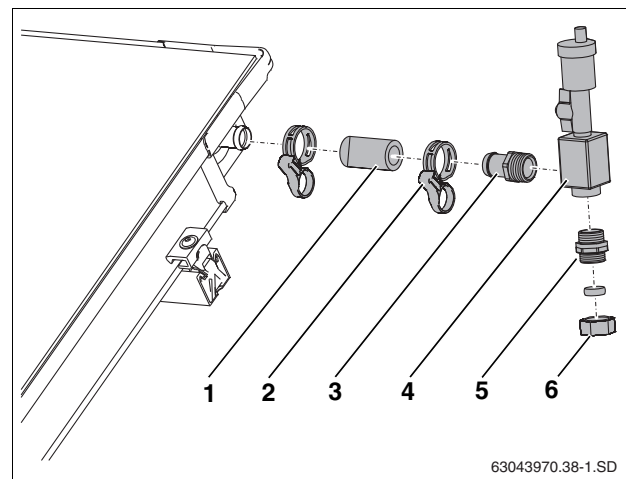

Fig. 60 Connecting the air-vent valve on roof
- ▶ Push short solar hose (55 mm, Fig. 60, [1]) onto the supply connection on the collector and secure using the hose clamp.
- ▶ Firmly screw hose fitting R $\frac{3}{4}$  with O-ring (Fig. 60, [3]) into the air vent body (Fig. 60, [4]) and tighten.
- ▶ Slide a hose clamp (Fig. 60, [2]) over the hose. Push the hose over the hose fitting (Fig. 60, [3]) until it reaches the stop and pull the locking ring to secure it in place.
- ▶ Screw double nipple with O-ring into air vent body (Fig. 60, [5]).
- ▶ Connect the supply pipe to the compression fitting (Fig. 60, [6]).